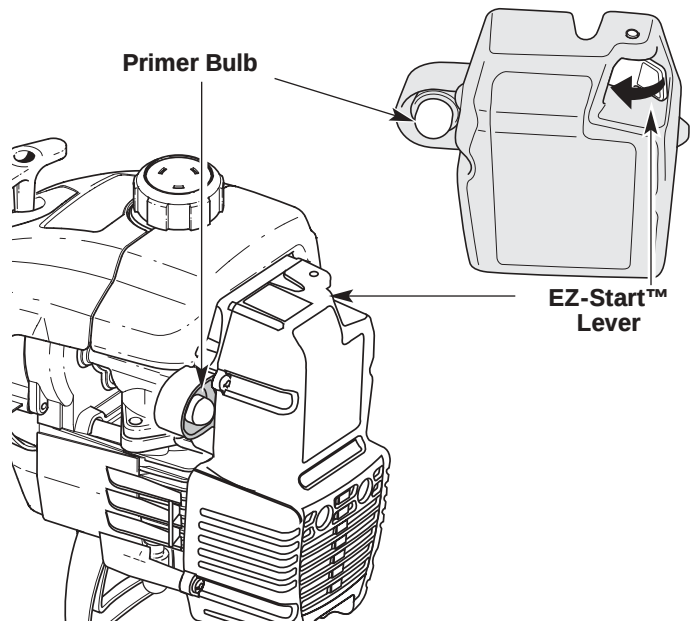

Fig. 17
3. Fully press and release the primer bulb 10 times, slowly, until **FUEL IS VISIBLE IN THE PRIMER BULB** (Fig. 17). If you can't see fuel in the bulb, press and release the bulb as many times as it takes before you can see fuel in it.
4. Push the EZ-Start™ Lever to the left until it clicks and locks into place (Fig. 17).
6. Squeeze the throttle control for 5 to 10 seconds in order to warm up the engine. The EZ-Start™ Lever will click off automatically (Fig. 17).